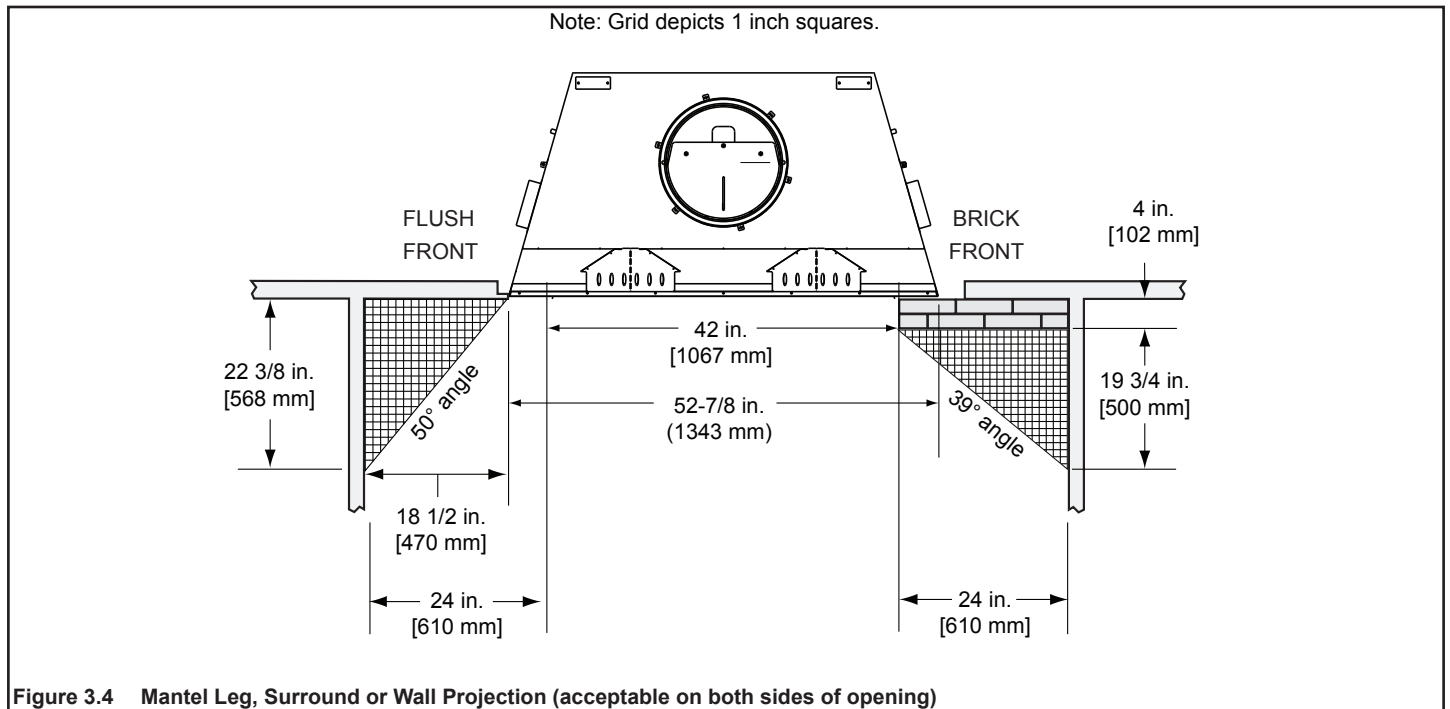

Figure 3.4 Mantel Leg, Surround or Wall Projection (acceptable on both sides of opening)
- Mantle leg, surround, stub wall, whether combustible or non-combustible, may be constructed as shown in Figure 3.4.
When typical combustible framing (2x4 lumber shown) is used, cooling air hoods are required. If the total structure is non-combustible, cooling air hoods are not necessary. See Figure 3.4.